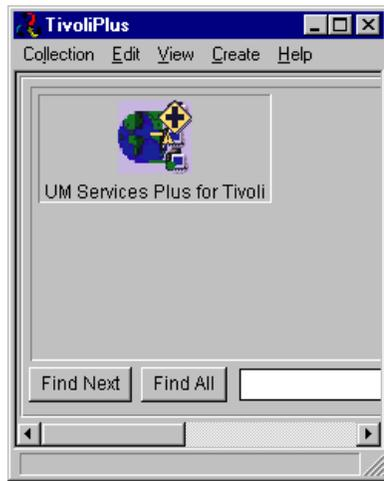

Figure 102. Tivoli Plus window
3. Double-click the **TivoliPlus** icon  on the desktop. Figure 102 appears.